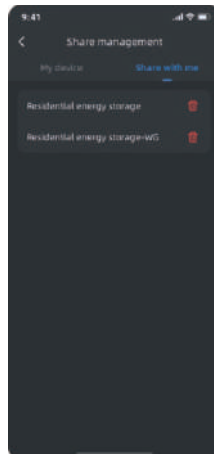

Figure 3
3)Figure 3: Display the device shared with you, click "Delete" to pop up a confirmation of pop-up window to cancel the sharing.